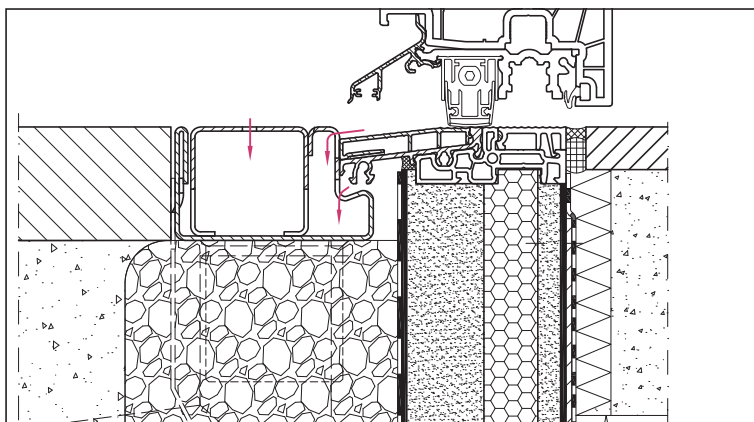
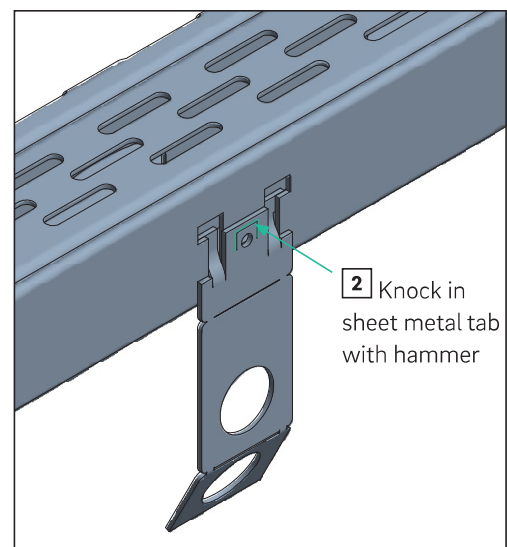

Fig. 18: RAUCERO ARTEVO floor connection (example)
Fig. 17: Installation of the concrete anchor – securing the concrete anchor
- If the concrete anchors are to be used, insert the 1 concrete anchor into the recess and secure it by pulling it downwards 2 (see Fig. 17). This secures the concrete anchor to the channel. Use a hammer to knock in the sheet metal bracket 3 to finally secure the concrete anchor (fig. 18).